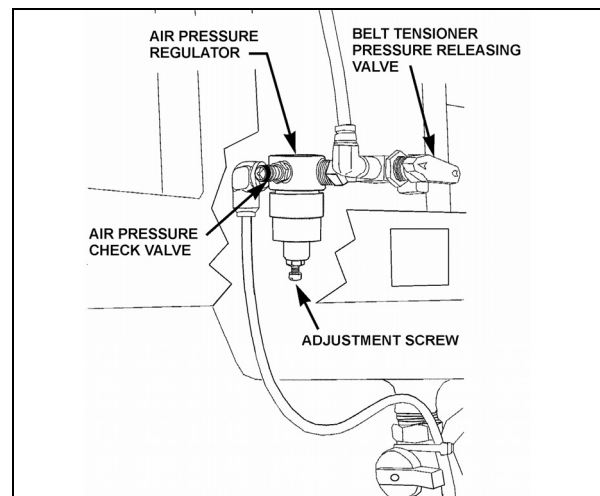

FIGURE 11: BELT TENSIONER VALVE
4. Locate the A/C compressor belt tensioner pressure releasing valve (Fig. 11). Turn pressure releasing valve handle counterclockwise in order to release pressure in belt-tensioner air bellows and loosen belts. Remove the belts.